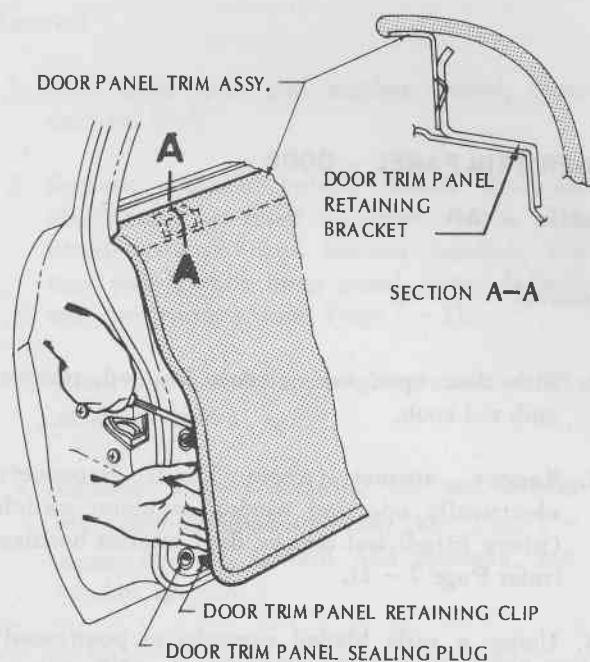

FIG. 7 - 13
1. On models fitted with the optional electrically operated window regulator, carefully prise switch assembly out of armrest and on RH front and rear doors, remove nut securing switch base to switch escutcheon (see Figs. 7 - 1, 7 - 2 or 7 - 3).